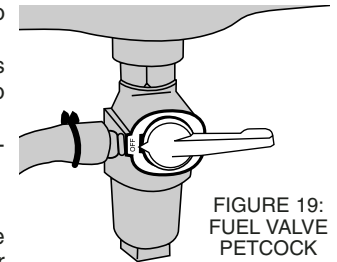

FIGURE 19: FUEL VALVE PETCOCK CLOSED
3. Close the fuel valve by turning petcock counterclockwise to the horizontal position shown in figure 19.